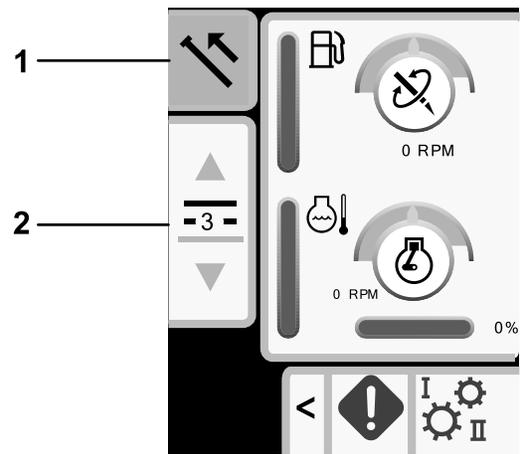

Figure 15
1. Push button 1 to select the pull pipe option (Figure 15).
2. Push buttons 2 and 3 to select the row where you want to place the pipe (Figure 15).